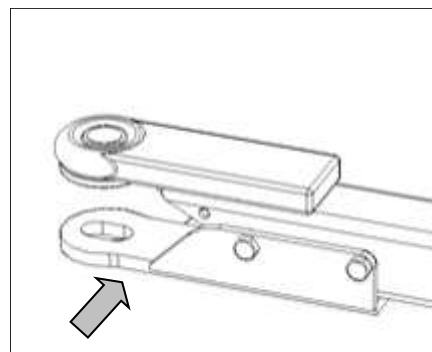

Fig. 17
6. Position the clevis as shown (Fig. 17).